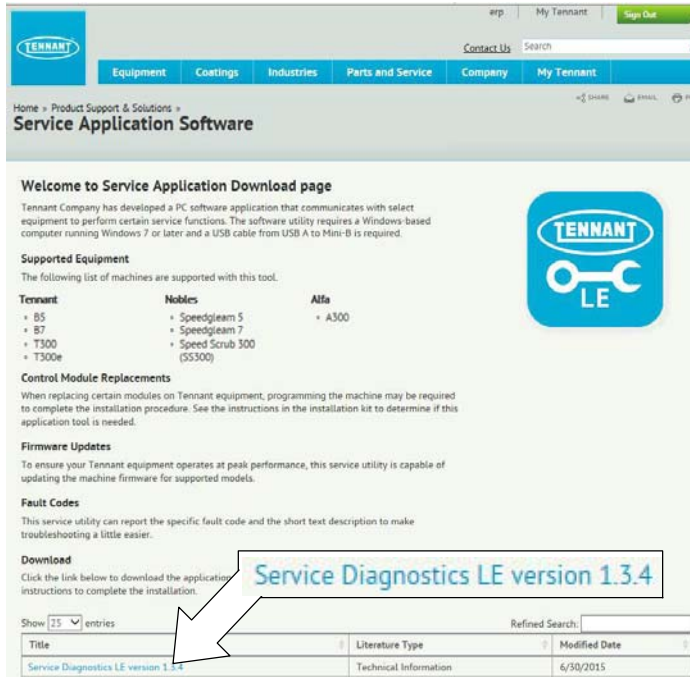

Fig. 19
- The application software is titled “Service Diagnostics LE version 1.3.4”. **The software version (ex. 1.3.4) will increase as updates are released.** To download, double click on “Service Diagnostics LE version...” (Figure 19). Click the Save button to download the app to your “Downloads” folder.